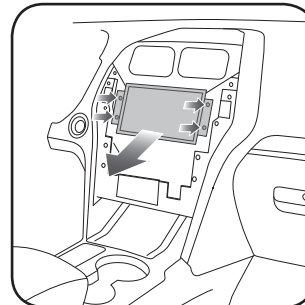

Fig. 1.5
5. Remove four (4) 7mm screws holding the screen. Unplug and remove the OEM screen. (Fig. 1.5)